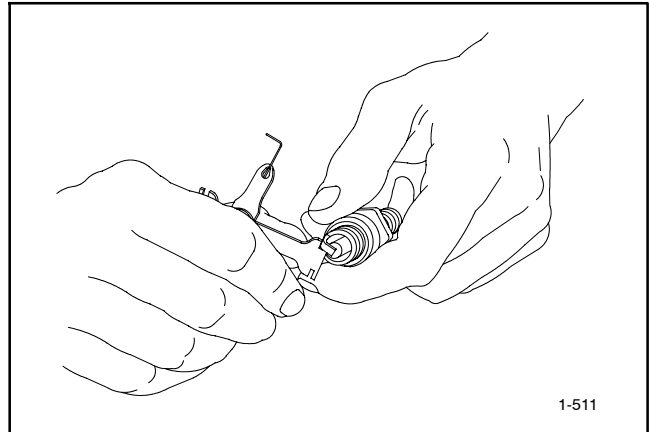

Figure 5-9 Spark Plug Gap Adjustment
- Use a gapping tool to gently bend the side electrode closer to or farther from the center electrode to set the correct gap. See Figure 5-9.